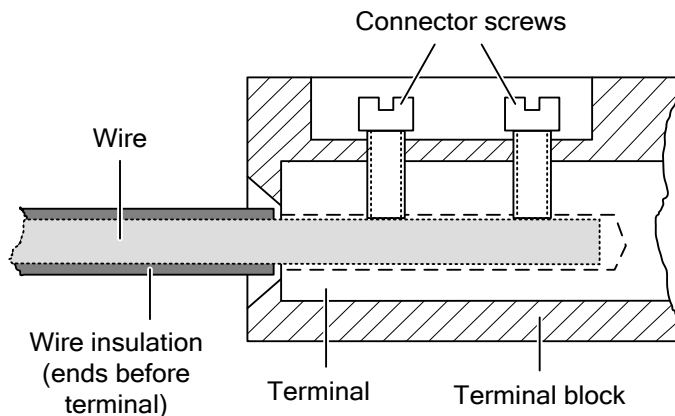

Figure 13 Terminal connection
1. Referring to *Figure 13*, cut and strip the connecting wires to the required length and then strip them.